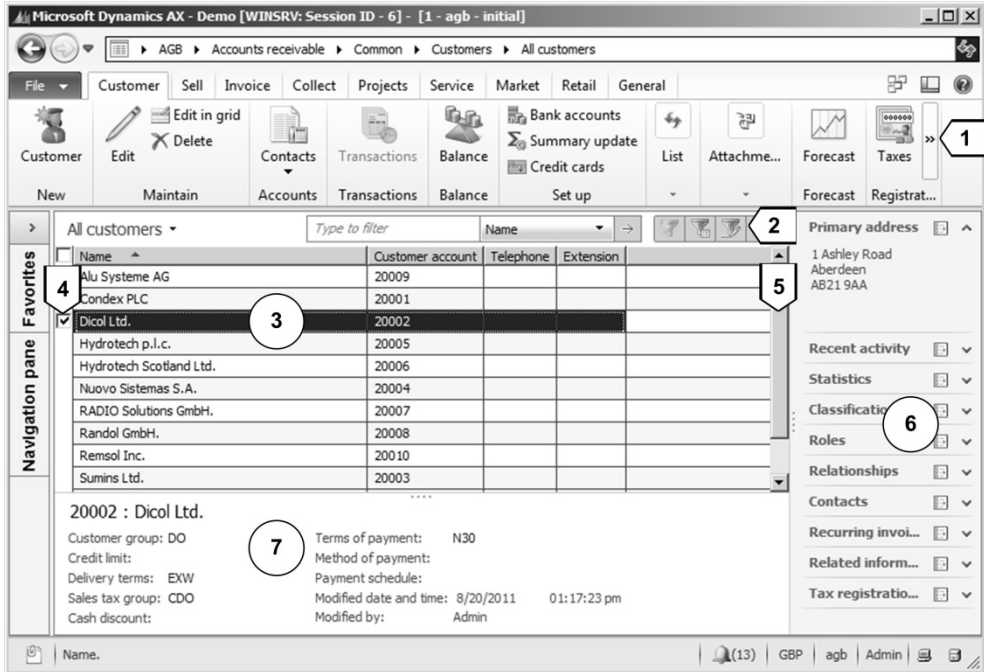

Figure 2-6: List page *Customers* (Auto-Hide Navigation enabled)
A list page like the customer page shown in Figure 2-6 provides a list of records of a particular table. List pages are available for viewing records, in addition
- **Action pane** [1] – Contains the action buttons (similar to the Microsoft Office ribbon). You may distinguish buttons for executing activities related to the selected record (like placing an order) on the one hand and buttons for opening related detail forms (displaying more information) on the other hand. The number and functionality of buttons is depending on the particular page. Depending on available actions, buttons show on several tabs (e.g. the action pane tabs *Customer* or *Sell* in Figure 2-6).